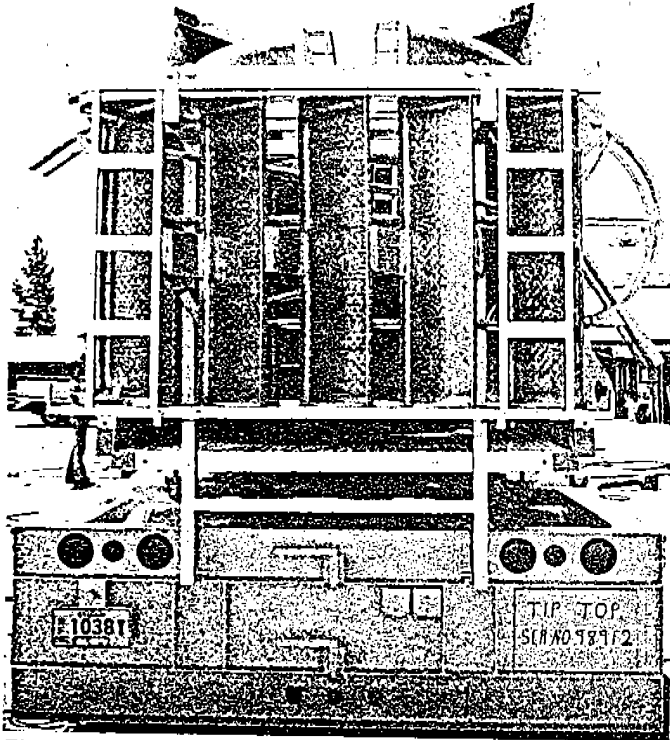
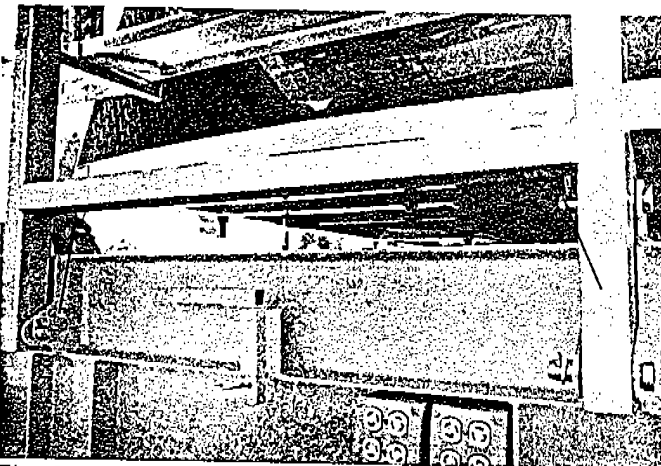

Fig. 91
Fig. 92
- d. Raise the rack to an upright position above the trailer deck. (Fig. 91) As the rack reaches the upright position, the double ears on the legs of the rack will fit between the two sets of double ears on the back of the trailer frame. *Pin and Snap Key in Place.* (Fig. 92)
- (1) Load the handrails first.
- (2) Position the steps with the tread plate facing in toward the ride.
- (3) Position the step jack support frame with the knobs on the cross bar facing away from the ride. Be sure to fit the holes at the ends of the cross bar over the pins at both ends of the steps frame. (Refer to Fig. 91)